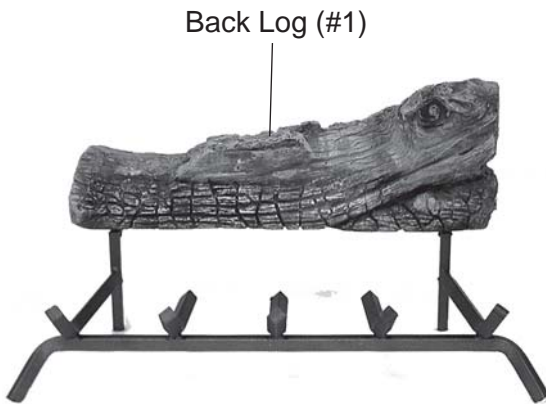

Figure 76 - Placing Rear Log (#1) on Back of Grate
2. Place Back Log #1 on back of grate. *See Figure 76.*